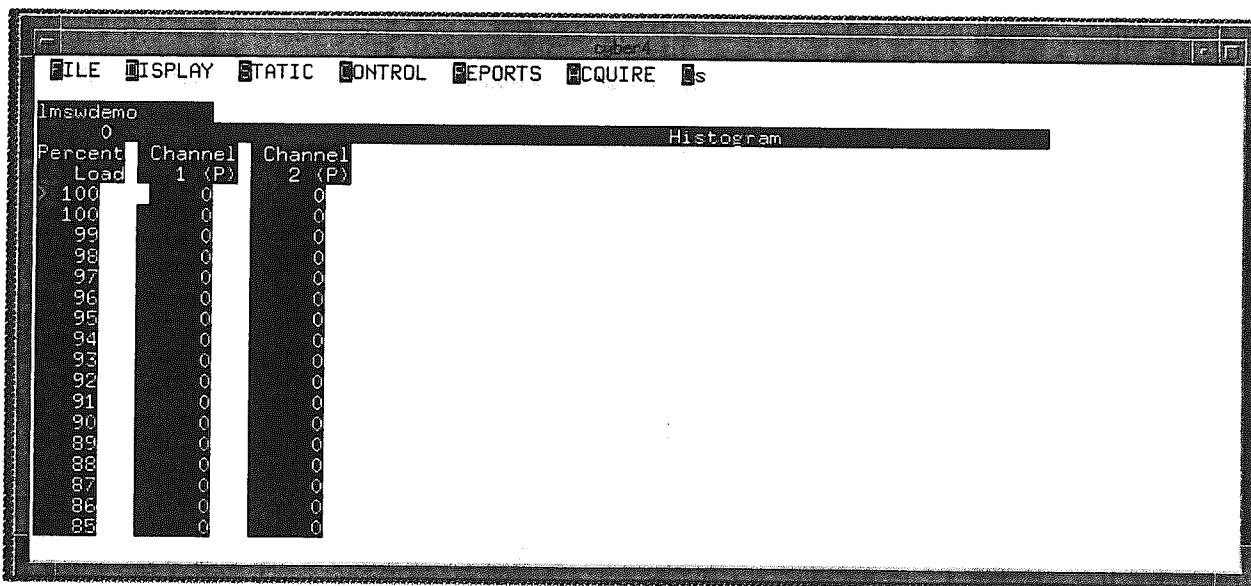

Figure 11-9. Tabular Histogram Display
- Step 2:** Once you have entered a control channel number, press [RETURN]. The screen displays a tabular Histogram such as that shown in **Figure 11-9**.